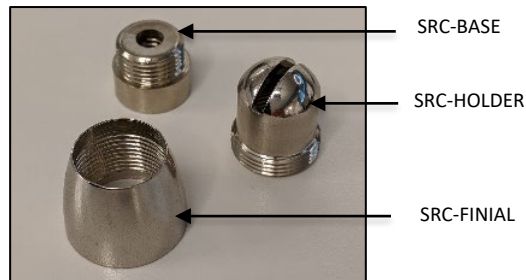

FIG. 24 – SLIP RING COUPLER (1)
1. Dis-assemble the SLIP RING COUPLER (1) into three components SRC-BASE, SRC-HOLDER and SRC-FINIAL as shown in FIG. 24.